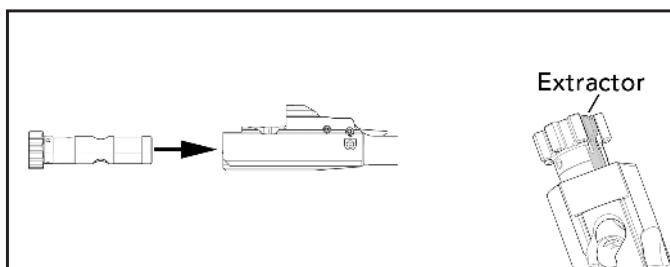

Fig. 57 – Bolt Carrier reassembly
- c. Slide the bolt head into the bolt carrier until the circular mounting surface for the cam pin on the bolt heads aligns with the front of the raceway on the bolt head carrier. Pointed down range, the extractor should be on the right hand side of the bolt carrier and ejector should be on the left (Fig. 57).